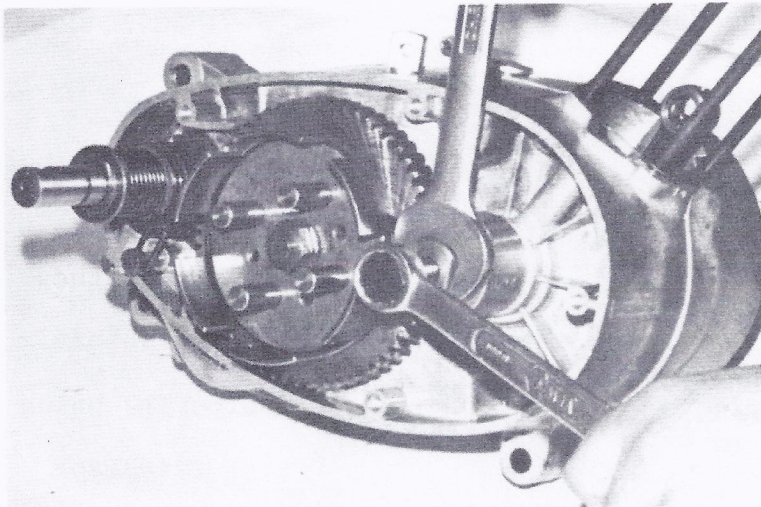

FIGURE 7 - How to remove the engine sprocket, using the extractor U2-4.
- 12) Using the special extractor U2-4, remove the engine sprocket from the shaft (see figure 7). Remove the key from the crank shaft.